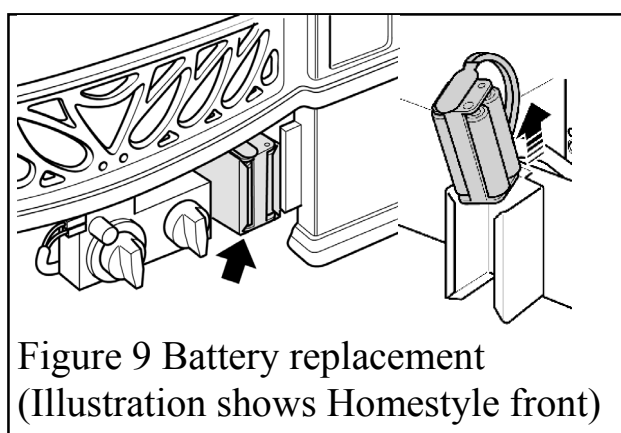

Figure 9 Battery replacement (Illustration shows Homestyle front)
- To change the batteries remove the bottom front casting. The battery case is at the right side. Lift the plastic battery holder out of the metal case and detach the batteries. See figure 9.